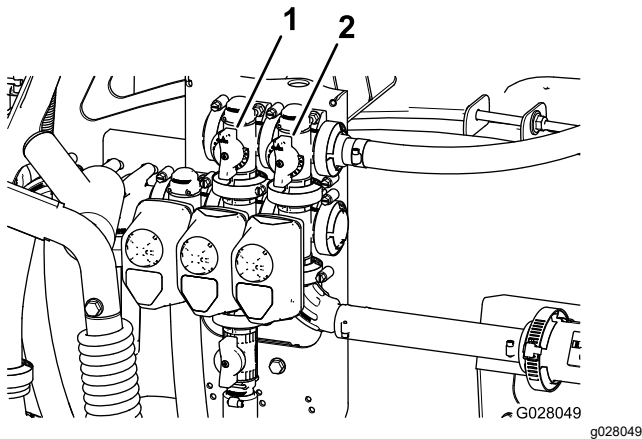

Figure 23
11. Adjust the agitation-bypass valve (Figure 23) on the backside of the agitation valve until the pressure reading on the gauge is 6.9 bar (100 psi).
9. Adjust the master-section-bypass handle to control the amount of agitation occurring in the tank (Figure 23).